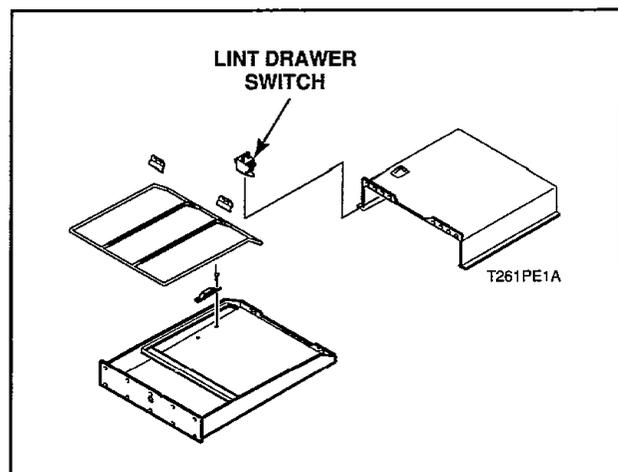

Figure 11
13. LINT DRAWER SWITCH (Figure 11)